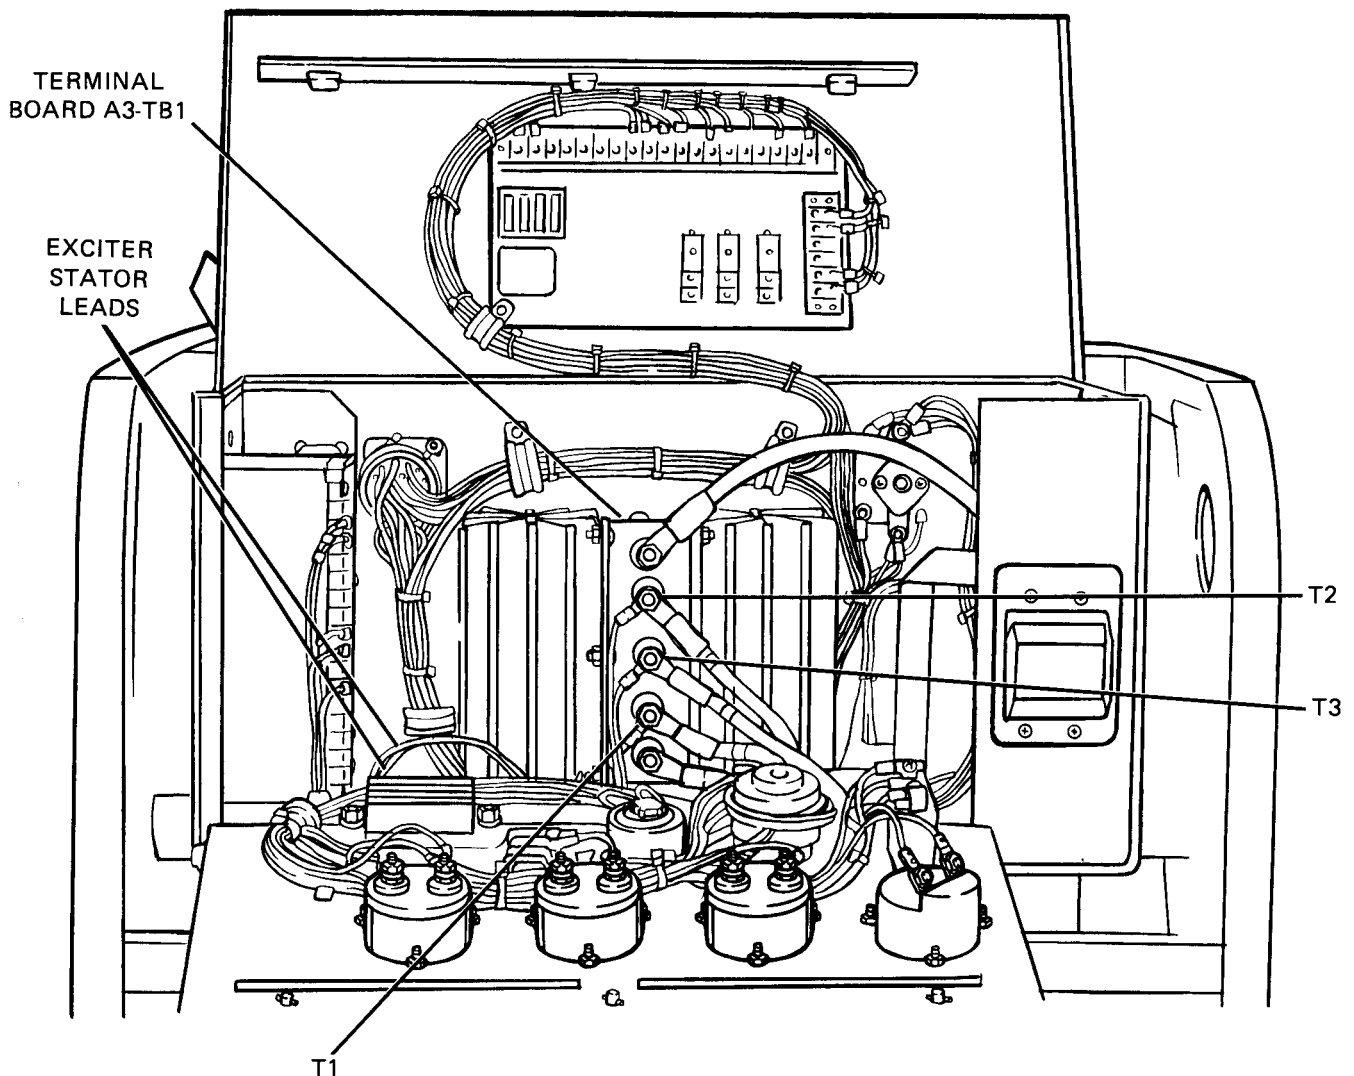

Figure 2-2. Generator Wiring MEP-026B.
- 1 Tag and disconnect two exciter stator leads from terminals #1 and #5 of terminal board A3-TB1 (see Figure 2-2).